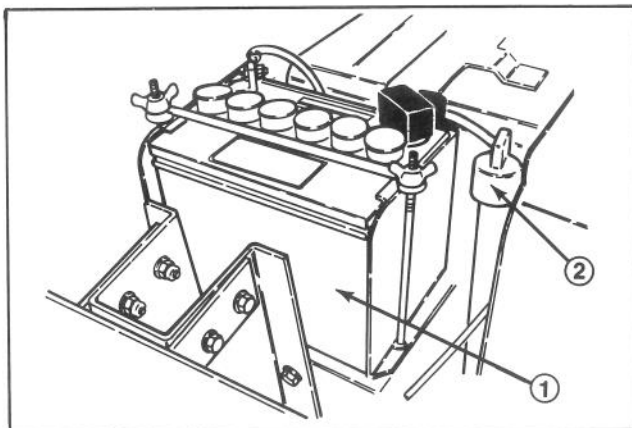

Figure 19
## ACTIVATE AND CHARGE BATTERY (Fig. 19)
6. Install the positive cable (rubber boot over end) to the positive (+) terminal and the negative cable (black) to the negative (—) terminal of the battery and secure with capscrews and nuts. Slide the rubber boot over the positive terminal to prevent possible short-out from occurring (Fig. 19).
## CHECK CRANKCASE OIL (Fig. 19)